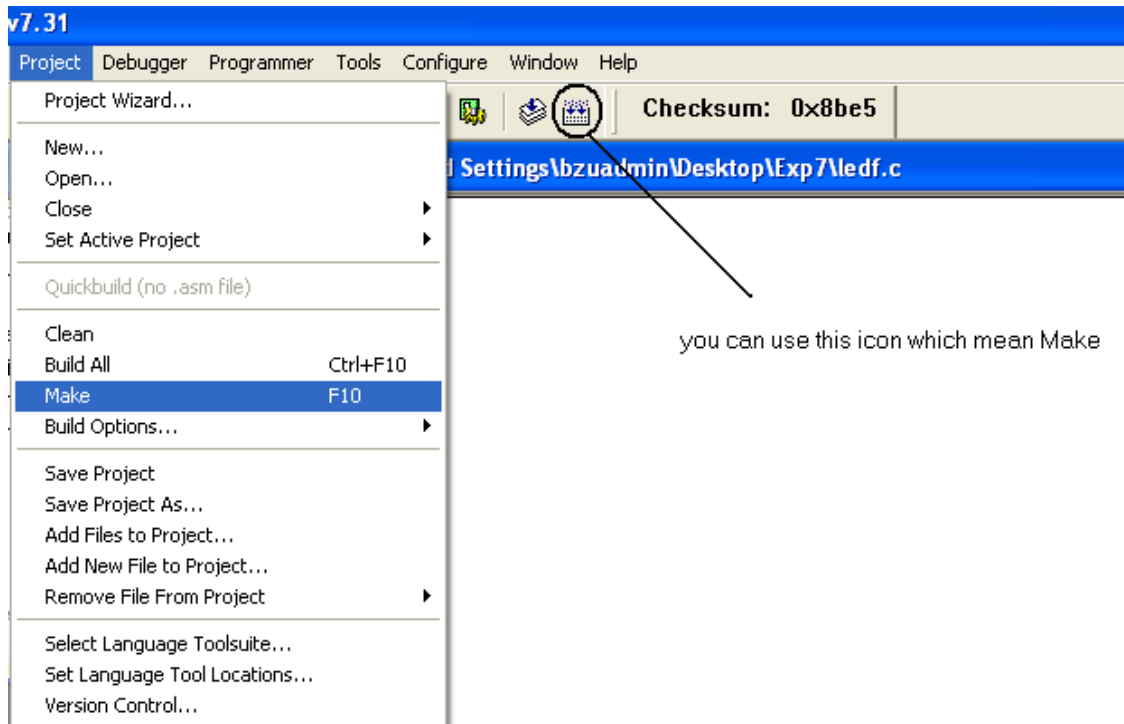

Figure 6 Project Make Button in the Main Toolbar
Step 9: To compile and build your project go to **Project -> Make** or simply click on the item circled in (Figure 6).